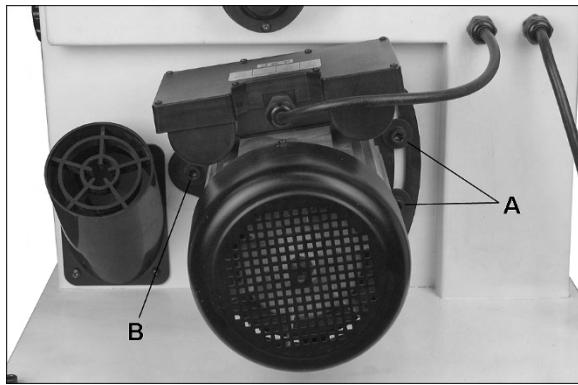

Figure 7-6
3. Loosen motor plate screws (A, Figure 7-6). If needed, slightly loosen pivot screw (B). Lift motor upward to remove tension on belt and tighten screws (A) to hold motor in raised position.